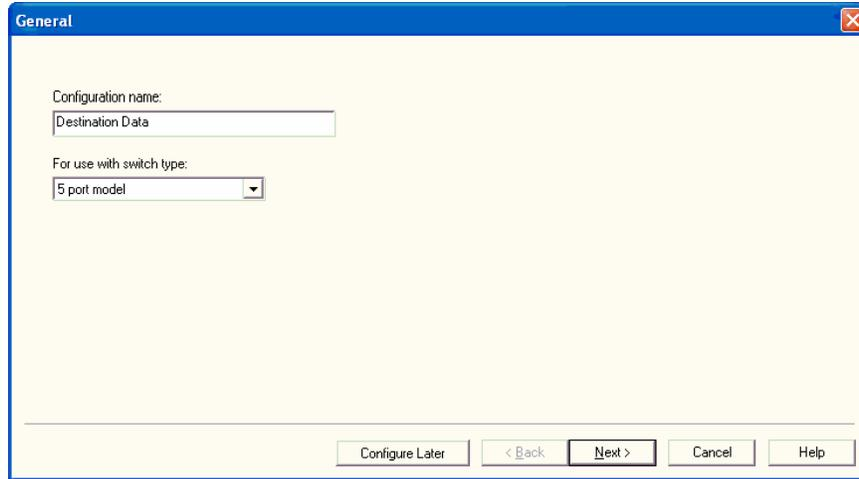

Figure 4.4
- Since the original configuration in the destination switch no longer applies, the integrator creates a new configuration for the destination station by clicking **Add New Base Configuration**. The integrator then fills out the configuration name and selects the switch type, as shown in Figure 4.4.